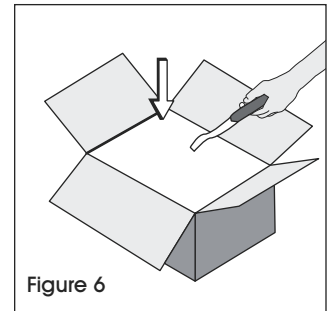

Figure 6
4. Place the bag on top of the box contents. (See Figure 6)